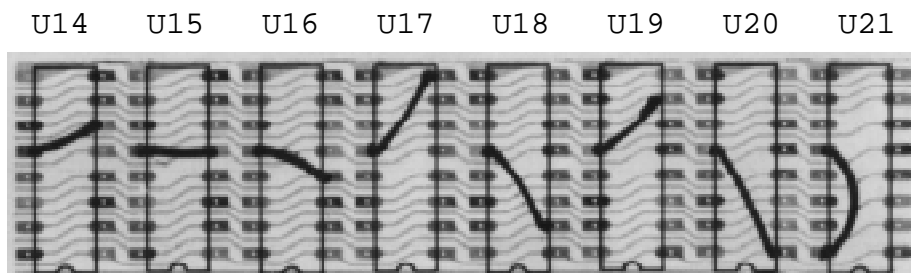

Figure 3-7. U14 through U21 socket jumpers.
- () Using #24 wire, install the following TEMPORARY jumpers in the sockets for U14 through U21. Double check jumpers after installing for correctness. (See Figure 3-7.)